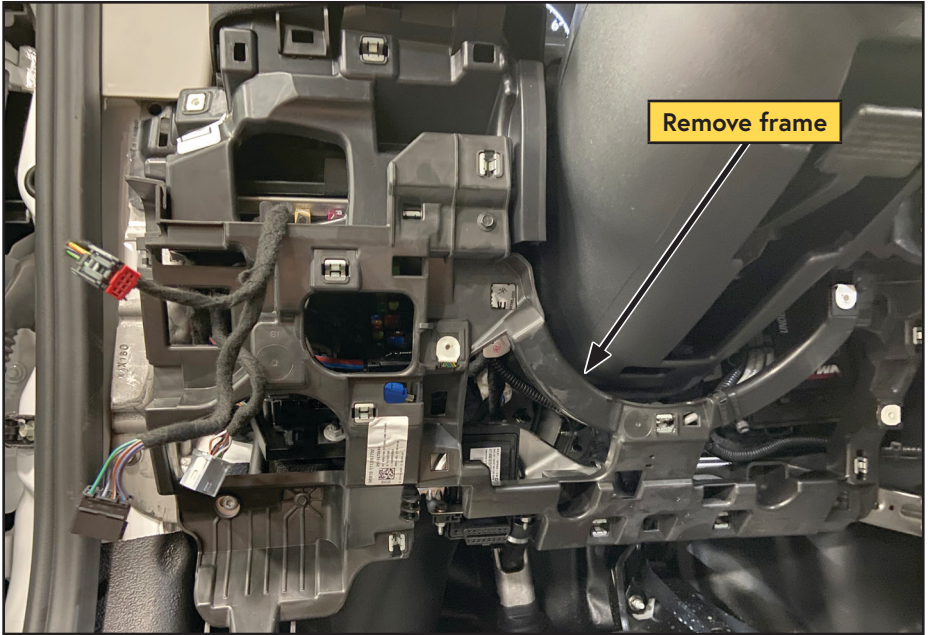

Figure 48 — Remove lower dashboard / sub frame
- Remove the plastic subframe (Figure 48).